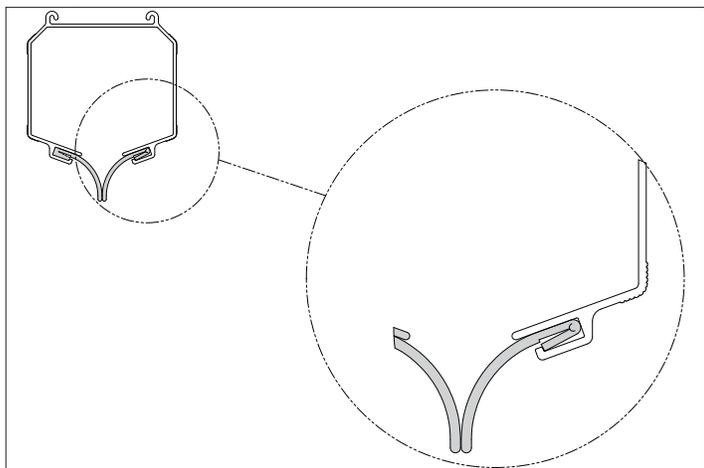

Fig. 4.6.1 Inserting the rubber seal.
- The rubber lip seals are flat and the smooth teflon coated side must be installed towards the inside of the rail. Refer to fig. 4.6.1. With the rail still on saw horses, install the rubber lip. To make this easier, spray the lip and aluminum channel with a soapy solution.